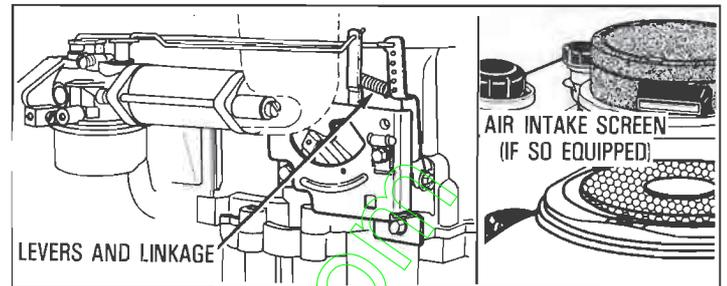

Figure 3
⚠ **KEEP HANDS, FEET, HAIR AND LOOSE CLOTHING AWAY FROM ANY MOVING PARTS ON ENGINE AND EQUIPMENT. BE SURE AIR INTAKE SCREEN (IF SO EQUIPPED SEE FIGURE 3) IS SECURELY IN PLACE TO AVOID CONTACT WITH MOVING PARTS.**
### ③ COOLING SYSTEM (see Figure 3):